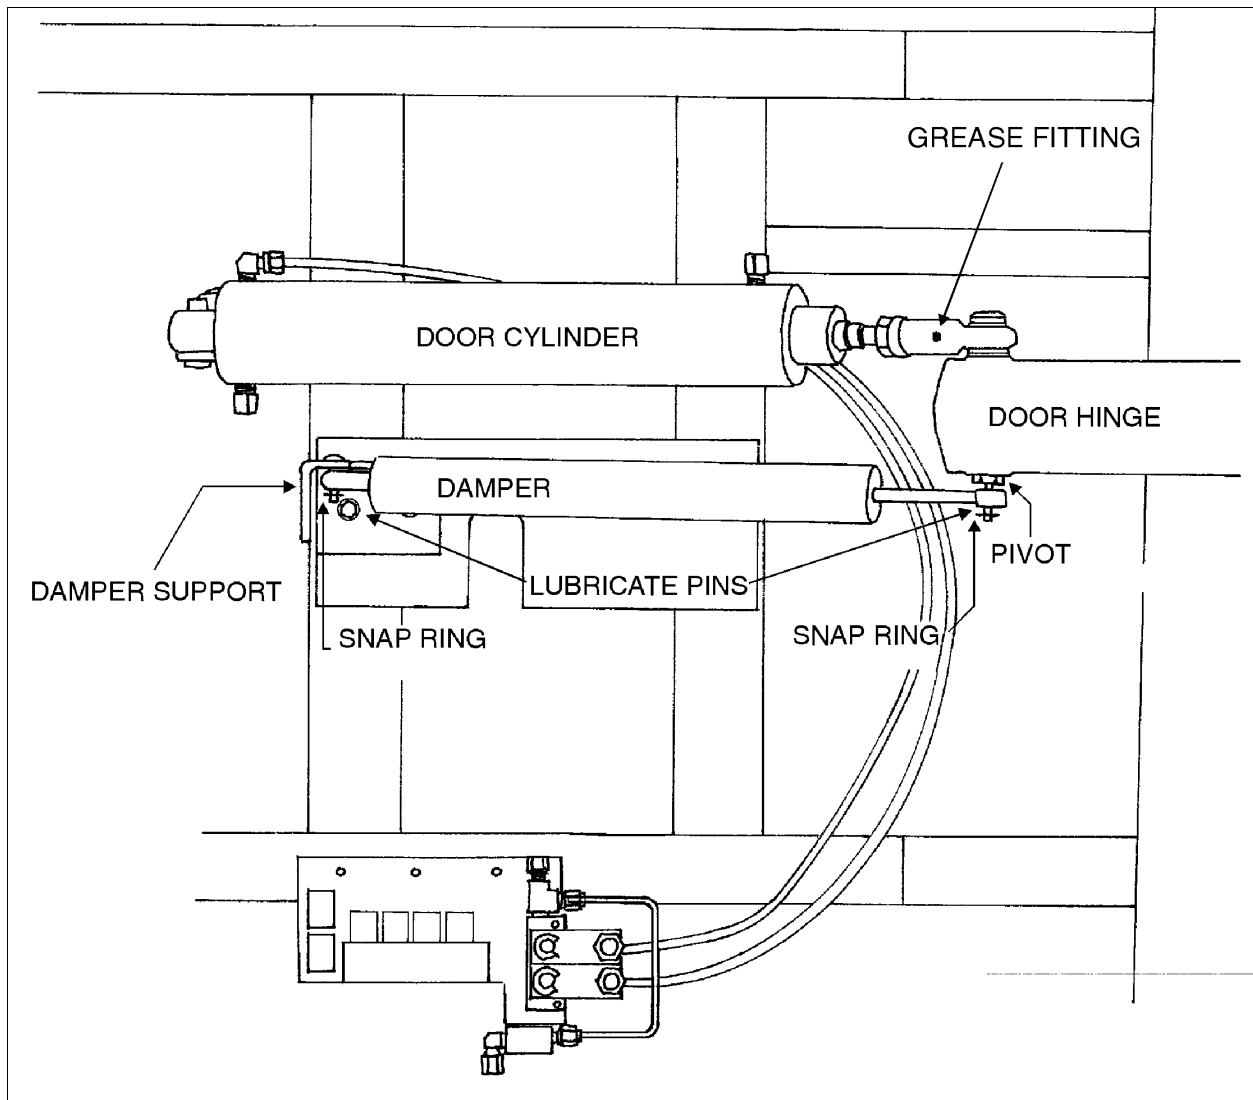

FIGURE 12: DOOR CYLINDER AND DAMPER
An air operated "sedan-type" entrance door, with an air door cylinder and damper assembly are installed under the right- hand dash. The opening and closing door speeds cycles is adjustable by a damper mounted in parallel with the door cylinder on the door hinge (Fig. 12). Door activation is controlled by a relay panel, located near defroster-wiper motor. The accessory air reservoir supplies air to this system.
- To adjust opening and closing cycles speeds on damper (Fig. 12): turn the dials one position, open and close the door, and repeat since desired opening and closing speeds of the door are obtained (best position are between 3 and 5 on the dials). Use the hexagonal key provided to lock the dials (Fig. 14).